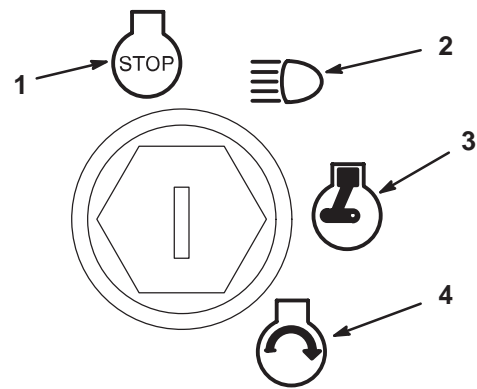

Figure 13
6. Turn the ignition key clockwise and hold it in the start position (Fig. 13).
3. Turn the ignition key to the stop position (Fig. 13).